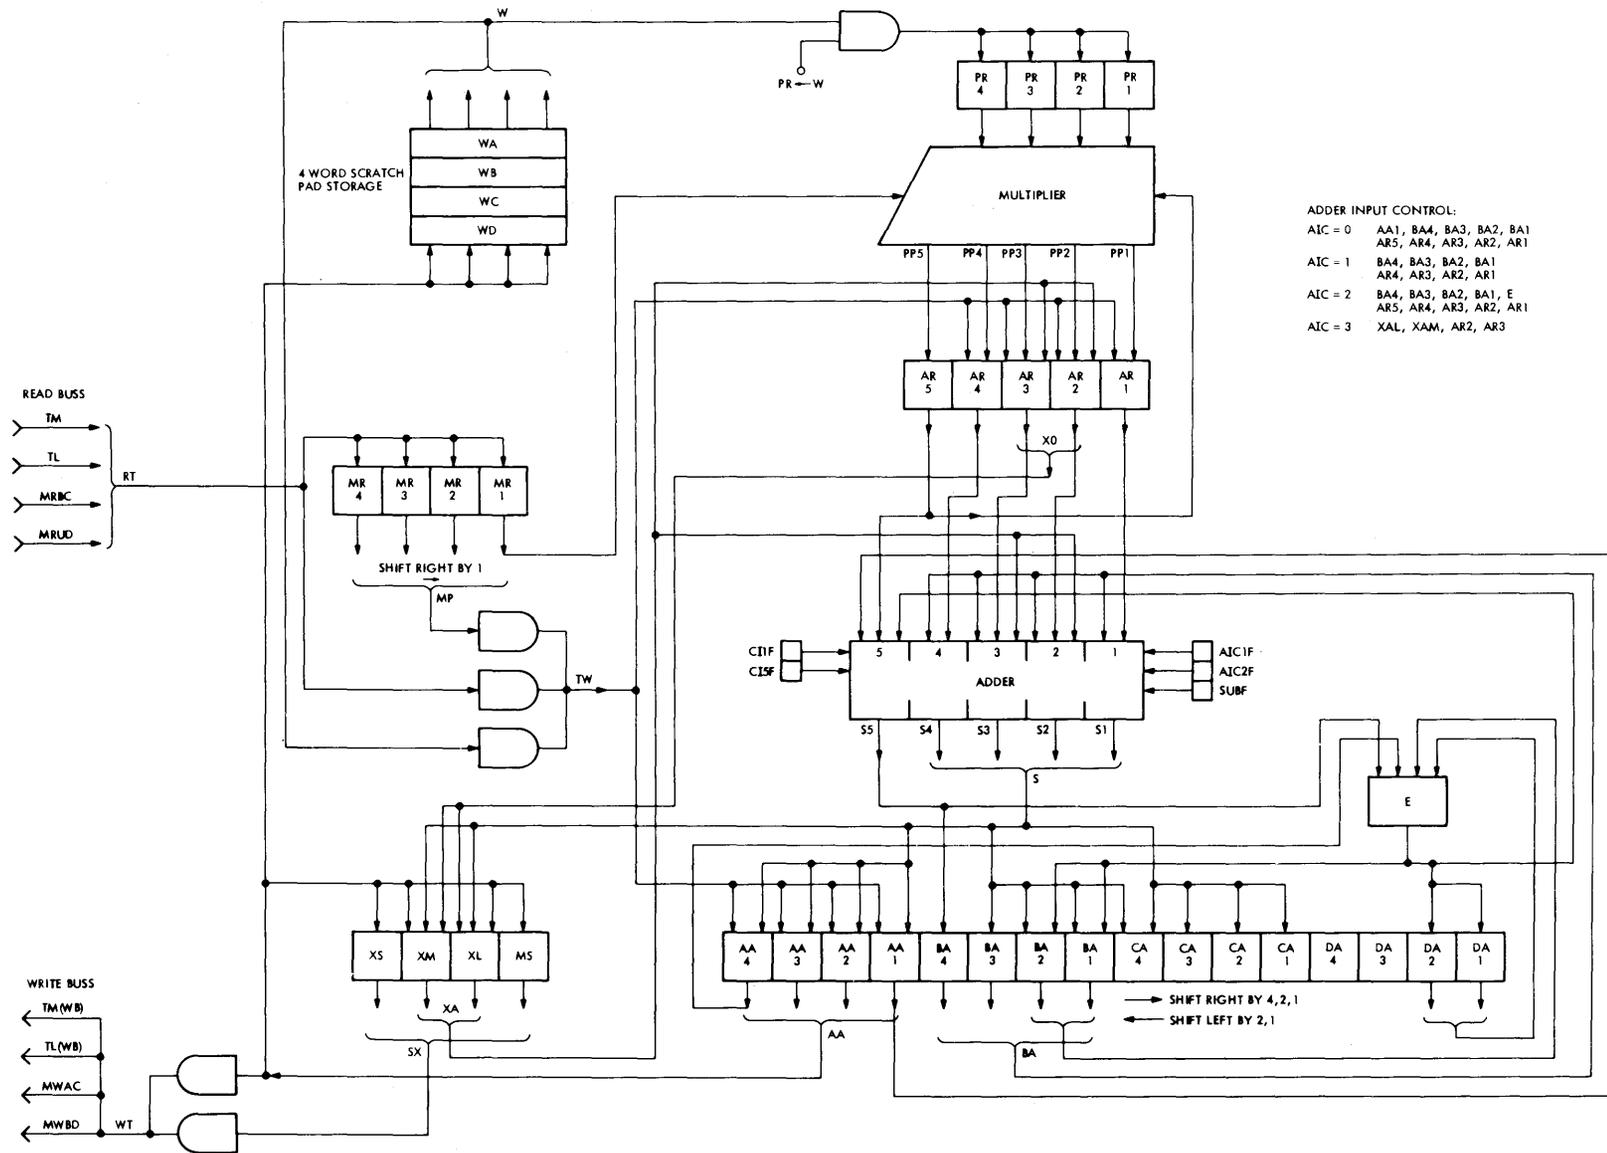

Figure 6. Fixed Length Arithmetic Unit
This portion of the processor makes use of several innovative techniques in arithmetic data manipulation; these include word-wide transfers into and out of the various arithmetic registers, multiple shift capabilities, automatic overflow compensation, and a full word multiply capability. This unit consists of several major elements and their associated controls and interconnections as described below and illustrated in figure 6.
**ARITHMETIC REGISTER.** This register, designated AR in figure 6, is most commonly used as one of the inputs to the five-digit adder. It is a full five-digit register and may receive data from the multiplier, the MR register, or directly from memory. This register has no shift capability.